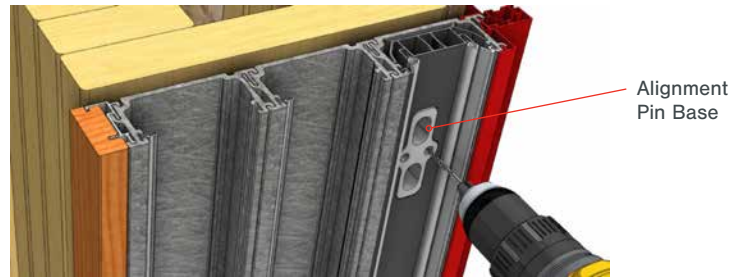

Fig 46
- Use the holes in the structural base as a guide to drill two 3/16" holes through the jambs and into the framing (Fig. 46).